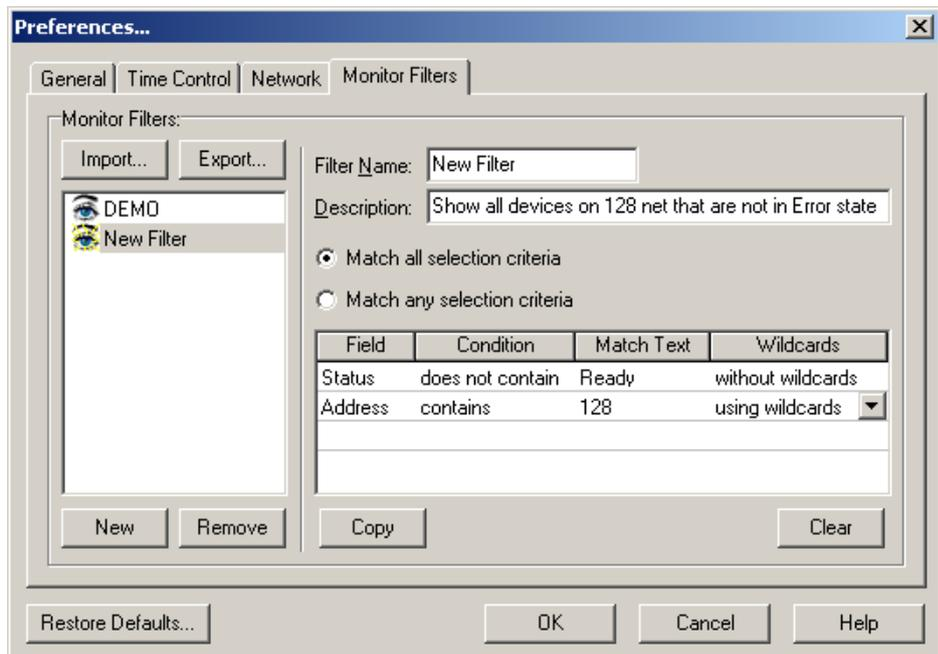

Figure 4
- Now set up the conditions for the filter (click on the field beneath the headings to see the options) and save it by pressing **OK**. You can see how a filter is defined in Figure 4.